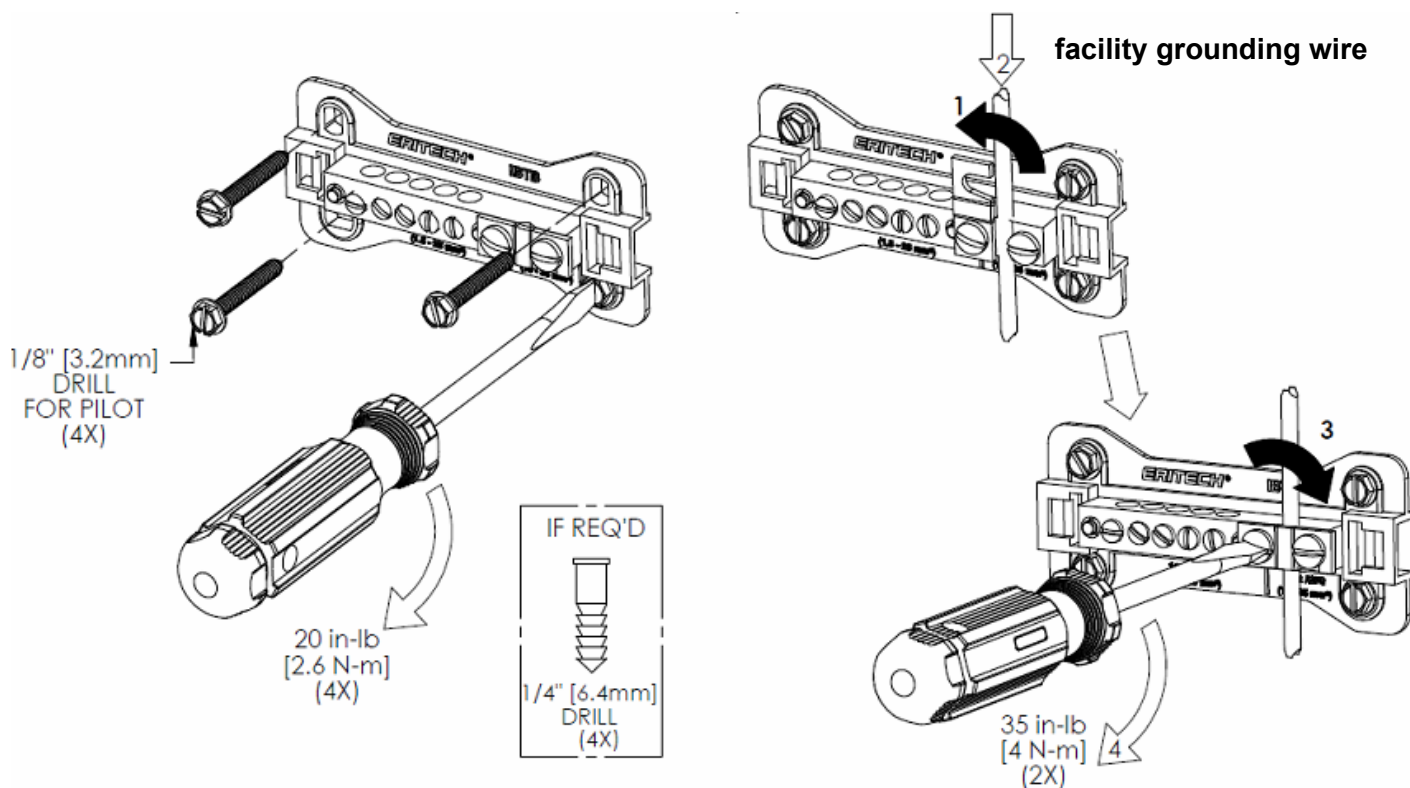

Figure 12: Connection of grounding point
1. Mount the earth connector on the wall near the Connection box (Figure 12).